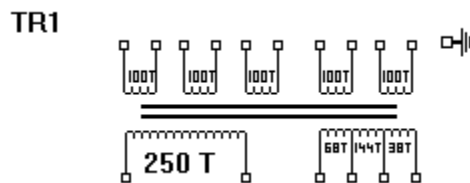

Figure 3-1
**Note 1:** Connect the individual coils to get the desired number of turns for the primary and secondary as shown in Figure 3-1.